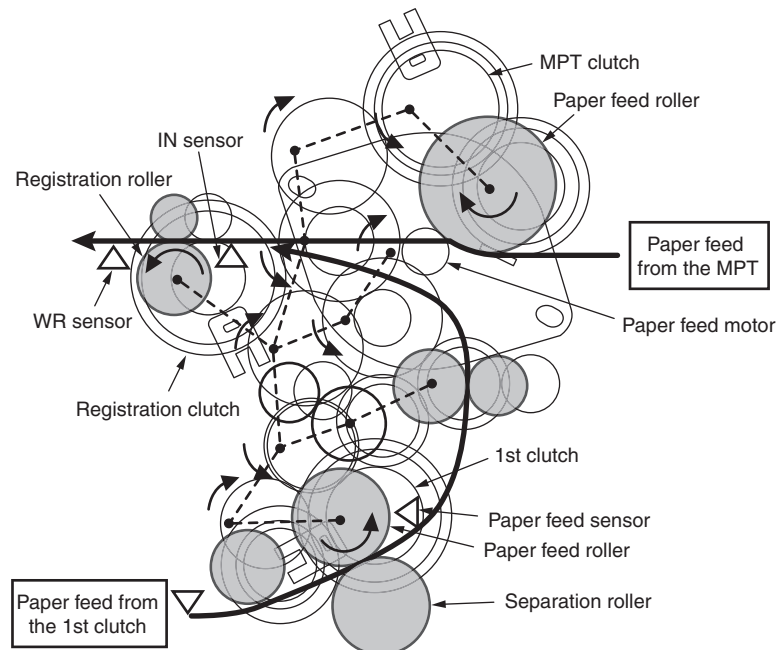

Figure 2-1
1. As illustrated in Figure 2-1, after the paper feed motor starts running (clockwise) and the 1st clutch comes ON, the paper is fed from the 1st Tray.
1. As illustrated in Figure 2-1, after the paper feed motor starts running (clockwise) and the MPT clutch comes ON, the paper is fed from the MP Tray.